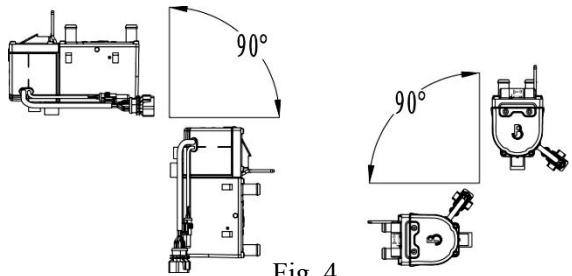

Fig. 4
4.2.3 Choice of position for installation of the heater shall facilitate release of air from the water pipe. It is allowed to incline to suit different arrangements for installation, but deviation from the “normal installation position” shall not exceed 90° , as shown in Fig. 4. Normal position is horizon and the exhaust pipe vent down.